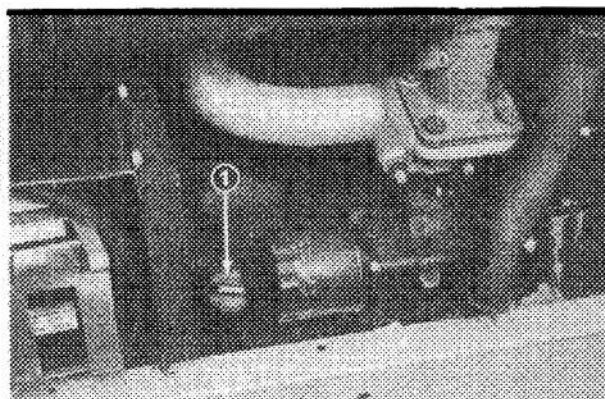

Figure 9
3. Unscrew dipstick and wipe it with a clean rag. Screw dipstick into the filler neck and make sure it is seated fully. Unscrew dipstick and check level of oil (Fig. 9). If oil level is low, add enough oil to raise level to FULL mark on dipstick. Do not overfill.